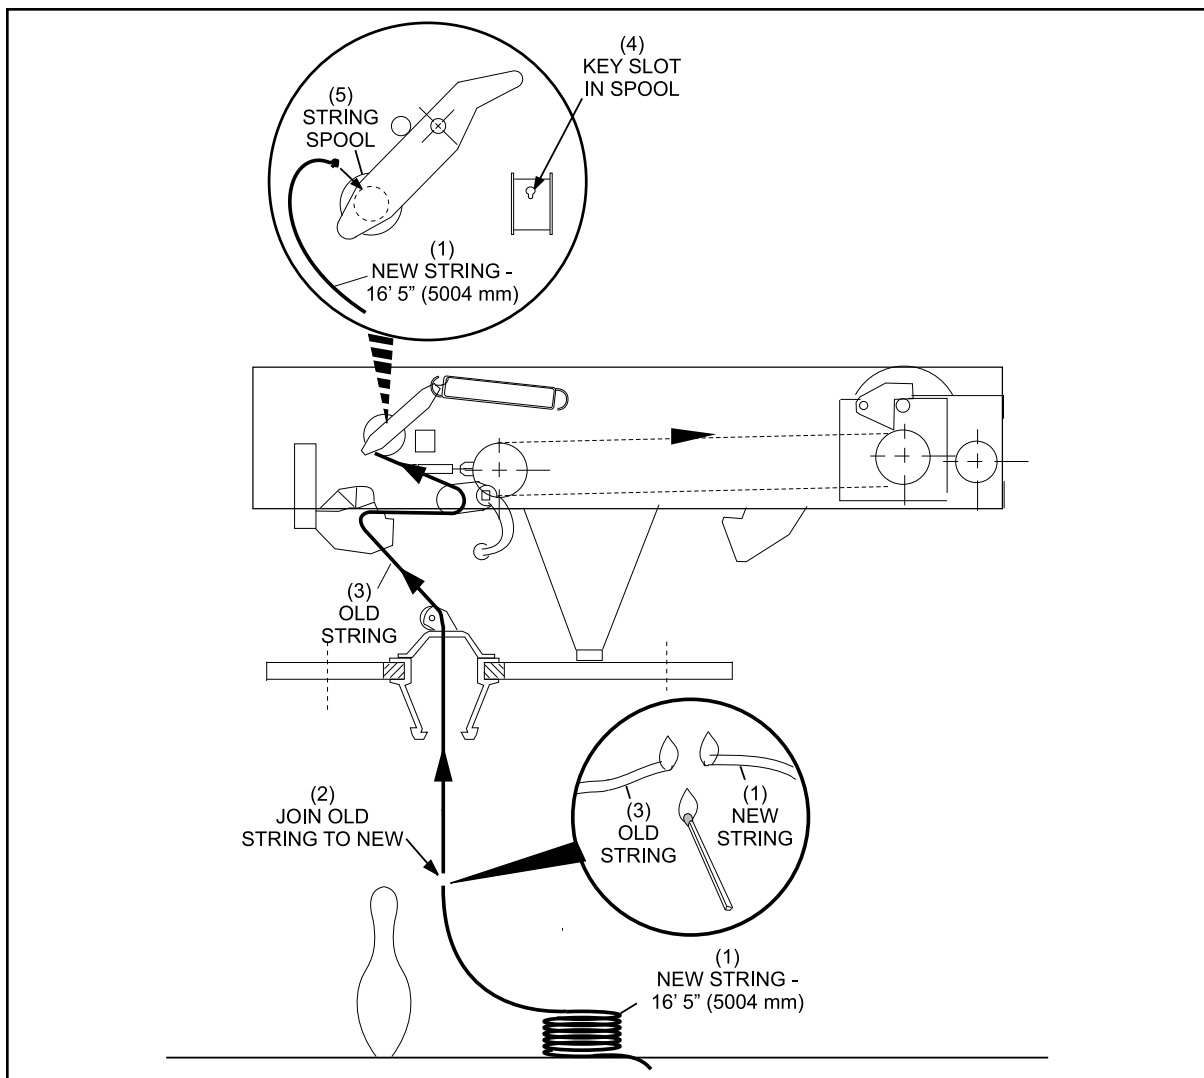

Figure 5-3. Restring Machine
2. Cut the string off any pin being replaced, just above its head. Refer to *Figure 5-3*.
4. At the cut end of the old string and one end of the new string melt the ends of the strings. While the string ends are still hot, press them together and hold until they cool and form a joint. Cover the joint with electrical tape to increase its strength. Refer to *Figure 5-3*.
5. At the String Spool, use the old string to carefully pull the new string through the machine until the new string is at the string spool. Remove the tape at the joint between the old and the new string. Cut off and discard the old string. Refer to *Figure 5-3*.
6. Remove the old string from the spool. Tie a knot in the end of the new string. Slide the knot through the key slot in the spool shaft and secure it. Refer to *Figure 5-3*.
9. Wind the extra string onto the spool by rotating the spool as arrow (3) shows in *Figure 5-3*.